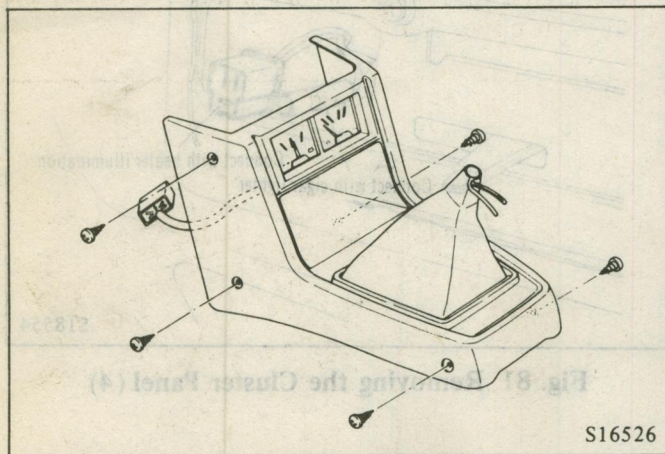

Fig. 82 Removing the Floor Console Box
- (1) Loosen tilt lever and tilt the steering column to the lowest position.
- (2) Remove the steering column cover (upper and lower).
- (3) Remove steering wheel. (Refer to GROUP 19)
- (4) Remove instrument cluster. (Refer to GROUP 8)
- (5) Remove radio, if so equipped. (Refer to GROUP 8)
- (6) Remove glove box. (Refer to GLOVE BOX of this GROUP)
- (7) Remove floor console box as follows:
- (a) Remove five screws (black colored head) fastening the floor console box. (Fig. 82)
- (e) Remove floor console box. (Fig. 82)